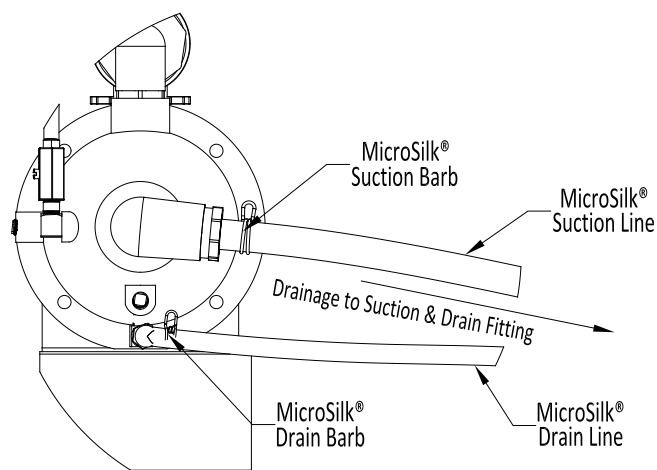

Figure 4
5. Clamp the MicroSilk® Suction Line to the MicroSilk® Suction Barb using the clamp provided on the tubing. Assure the MicroSilk® Suction Line will allow proper drainage to the suction (**Figure 4**). The suction hose must have a continuous drop from the suction barb to the suction fitting.
6. Clamp the MicroSilk® Drain Line to the MicroSilk® Drain Barb using the clamp provided on the tubing. Assure the MicroSilk® Drain Line will allow proper drainage to the drain fitting (**Figure 4**). The drain hose must have a continuous drop from the drain barb to the drain fitting.